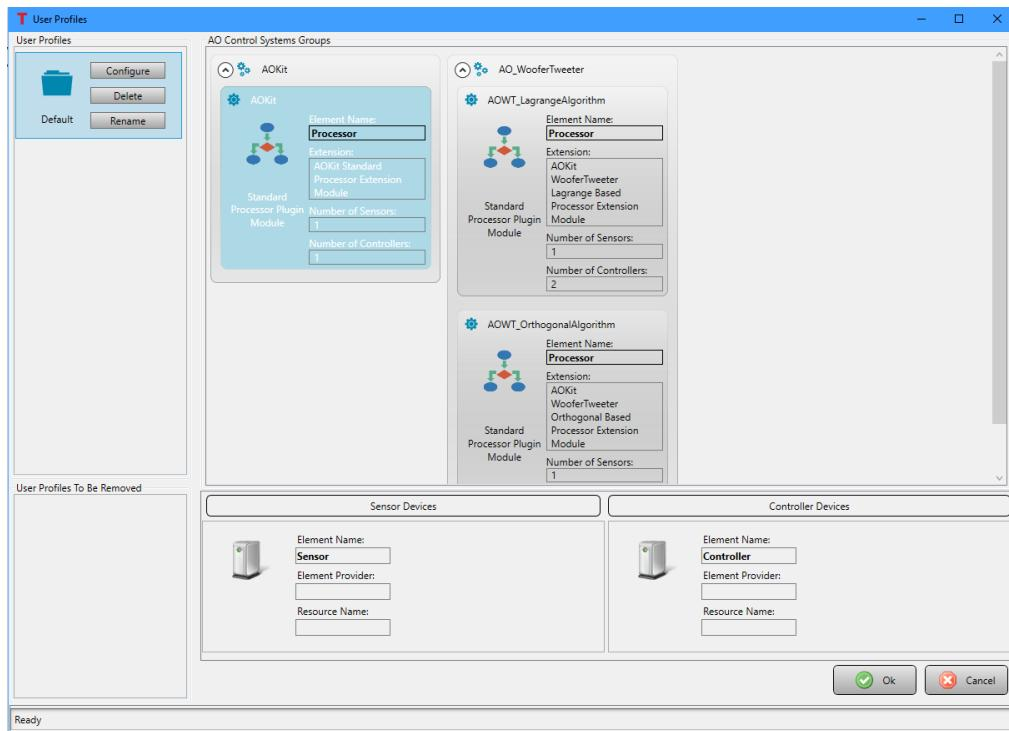

Figure 70 This window appears after clicking the **Configure User Profiles** from Main window
1. From main window toolbar, click User Profiles->Configure User Profiles. This will open User Profiles window, see Figure 70.